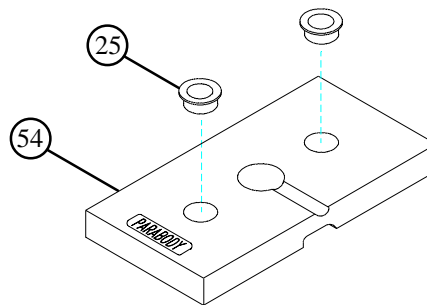

FIGURE 10
- Snap two WEIGHT PLATE BUSHINGS (25) into the “PARABODY” side of all twenty WEIGHT PLATES (54) as shown in FIGURE 10.